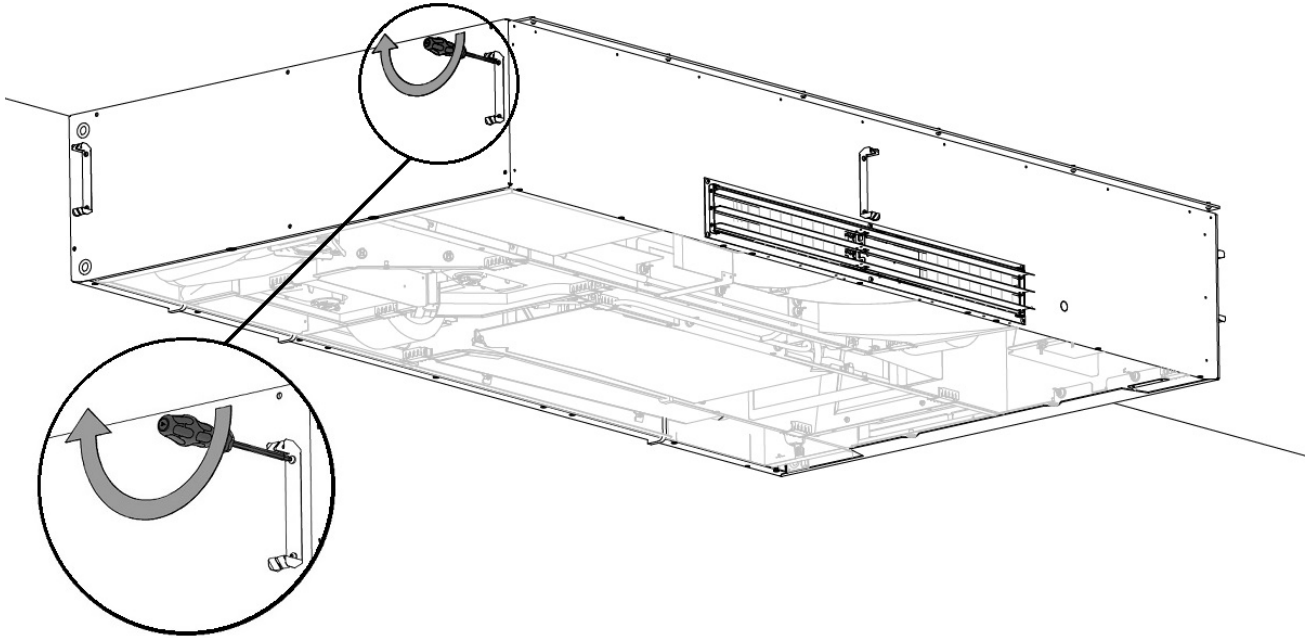
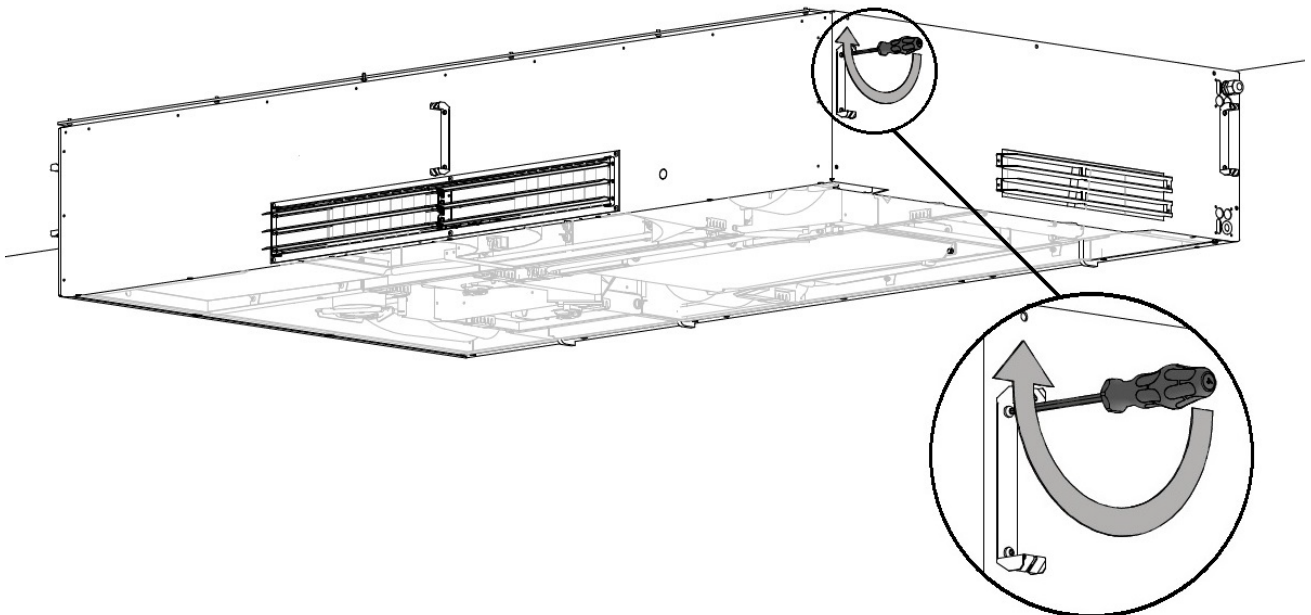

Figure 25: Mount the panel brackets - 1
Figure 26: Mount the panel brackets - 2
1. Mount the panel brackets. There are two on each side and one in the front of the unit, see Figure 25 and Figure 26 below.